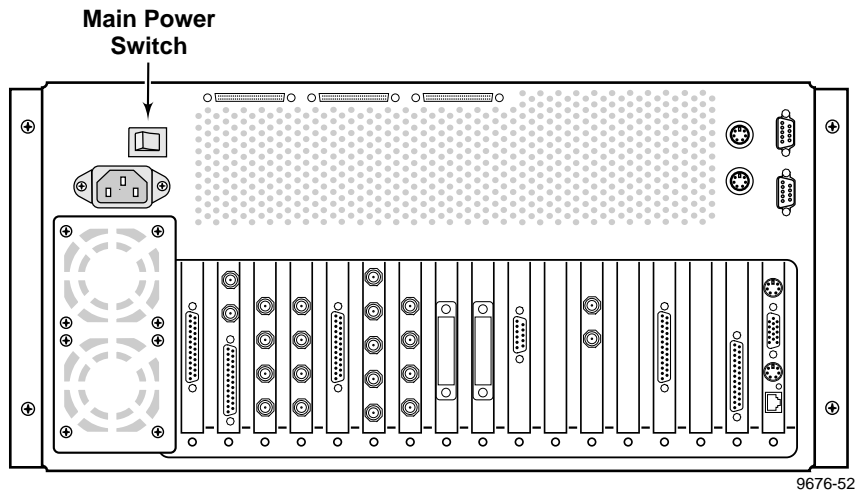
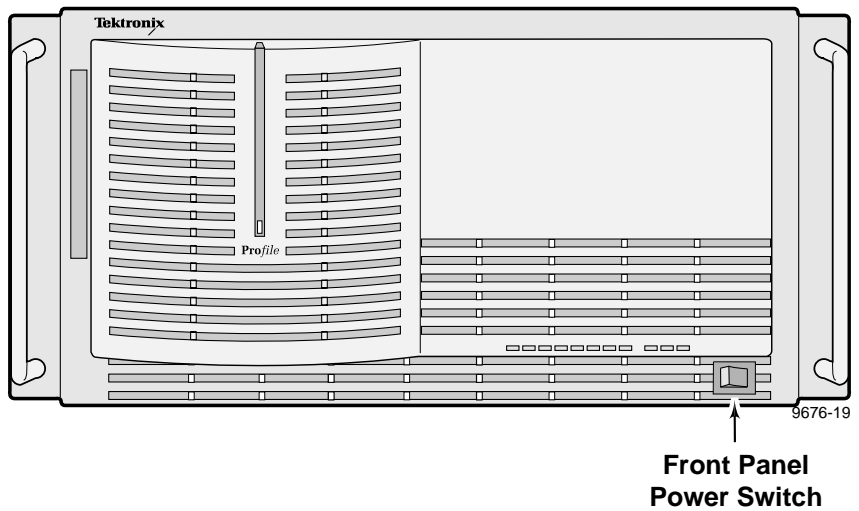

Figure 3-1. Rear Panel Main Power Switch
Figure 3-2. Front Panel Power Switch
Figure 3-1 shows the location on the rear panel of the main power switch which connects main power to the unit. Figure 3-2 shows the location of front panel power switch which provides system On/Off control.
6. On the rear panel of the Profile Video File Server (see Figure 3-1), turn the main power switch to I (On).
7. On the front panel of the Profile Video File Server (see Figure 3-2), turn the power switch to On.